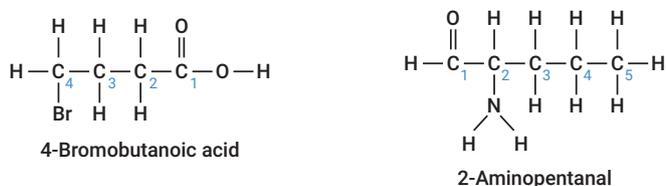

FIGURE 12.3.6 Examples of molecules with terminal functional groups
6. If one of the functional groups is a terminal functional group (can only exist at the end of a chain) such as a carboxyl or an aldehyde group, then the carbon atom to which this group is attached is always numbered as 1, as shown in **Figure 12.3.6**.